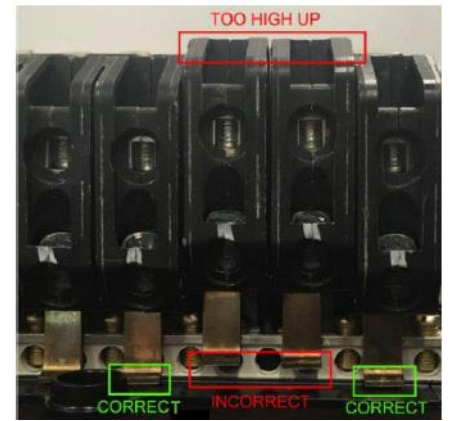

Figure 1
- Please refer to figures 1 and 2.